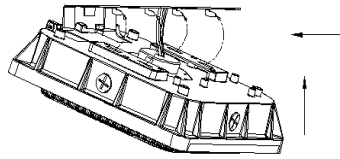

FIG.4
3. Swing the fixture towards to the hook. Fasten screw A to lock the fixture. FIG.4,5